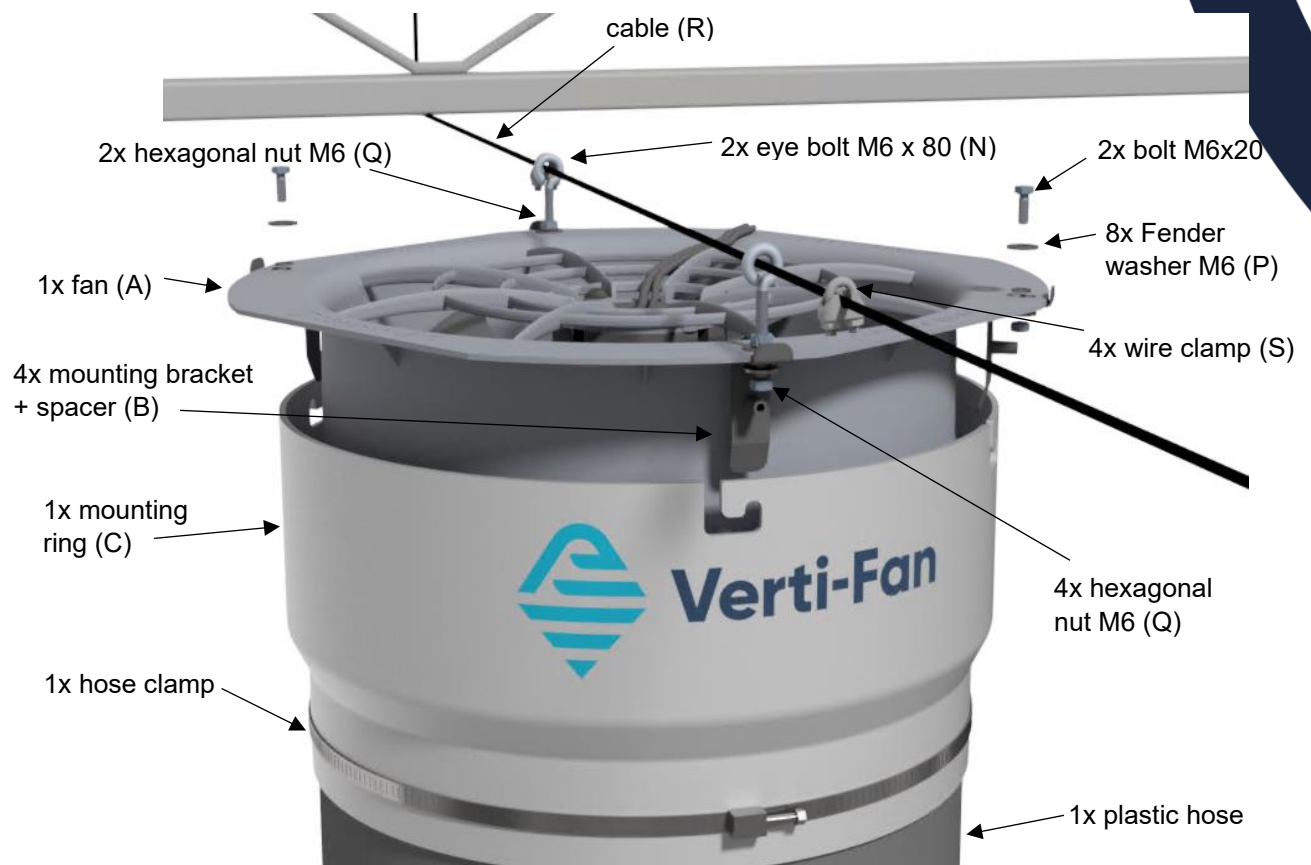

Figure 4 Verti-Fan suspended with aid of a steel cable
In the table below and in the installation description is referred to parts in Figure 4.
- Hang the Verti-Fan to the steel cable (R) such that it hangs on the eye bolts (N) (see figure 4).
- Finally secure the fan with two wire clamps (B) to hold it in position (see figure 4 t/m 6)